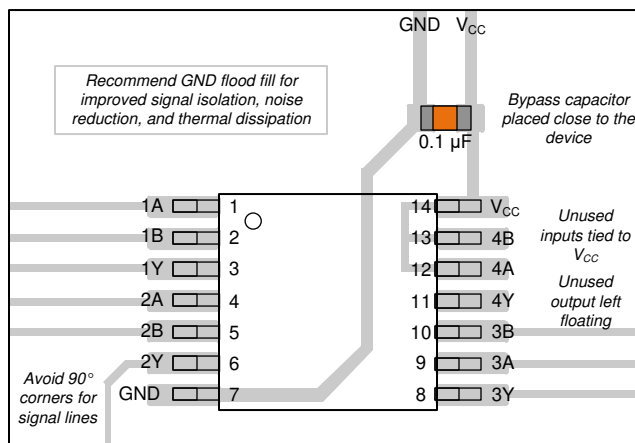

Figure 8-3. Example Layout for the SN74LVC132A-Q1
1. Add a decoupling capacitor from V_{CC} to GND. The capacitor needs to be placed physically close to the device and electrically close to both the V_{CC} and GND pins. An example layout is shown in the Figure 8-3.
The power supply can be any voltage between the minimum and maximum supply voltage rating located in the Recommended Operating Conditions. Each V_{CC} terminal should have a bypass capacitor to prevent power disturbance. A 0.1 μ F capacitor is recommended for this device. It is acceptable to parallel multiple bypass caps to reject different frequencies of noise. The 0.1 μ F and 1 μ F capacitors are commonly used in parallel. The bypass capacitor should be installed as close to the power terminal as possible for best results, as shown in Figure 8-3.